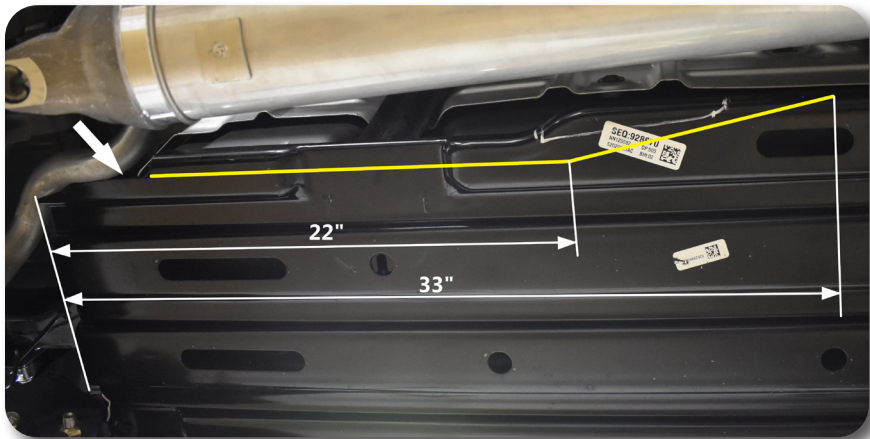

Figure 6
13. Trim the inside edge of the skid plate closest to the drive shaft. Cut as shown **Figure 6** along the yellow lines. The first cut is a continuation of a factory edge pointed out with the arrow below then cut parallel to the factory edge to a distance of 22" from the furthest back edge of the skid plate. From that point cut towards the edge of the skid plate at an angle to meet with a point 33" from the rear edge of the skid plate.